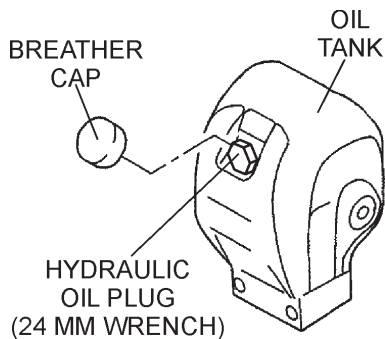

**Figure 32. Hydraulic Oil Cylinder**
- Disconnect the hydraulic hose connected to the hydraulic oil cylinder (Figure 32).